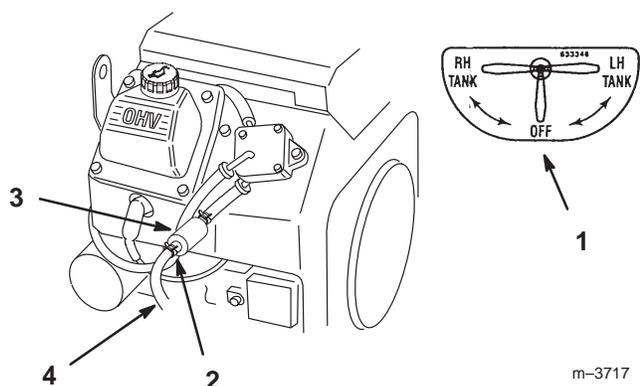

Figure 30
5. Install a new filter and move the hose clamps close to the filter (Fig. 30).
2. Close fuel shut-off valve (Fig. 30).
3. Loosen the hose clamp at the fuel filter and slide it up the fuel line away from the fuel filter (Fig. 30).
- Pull the fuel line off fuel filter (Fig. 30). Open fuel shut-off valve and allow gasoline to drain into a gas can or drain pan.
- Install the fuel line onto the fuel filter. Slide the hose clamp close to the fuel filter to secure the fuel line (Fig. 30).